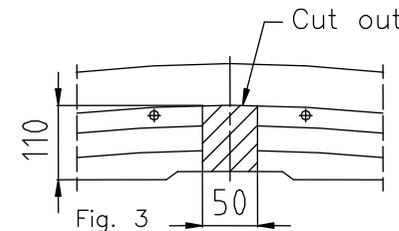

Fig. 3
- To the left and right chassis member slip sleeve $L=85$ mm (pos. 10), see fig.
- To drilled holes put sleeves $L=51,5$ mm (pos. 9).
- To the inside of chassis members and rear part of the car put brackets (pos. 4 and 5) and fix using bolts $M10 \times 120$ mm (pos. 13) through sleeves and bolts $M10 \times 35$ mm (pos. 15) through nuts on the jib (pos. 8).
- Put the main bar of the towing hitch (pos. 1) on protruding elements (bolts) of removed metal reinforcement and fix using original nuts $M8$ (from reinforcement) and using $M10 \times 90$ mm (pos. 14) - see fig.
- Elements of the towing hitch (pos. 6 and 7) fix loosely to the original tow handle, and next through holes (pos. A) of ball brackets fix using bolts $M10 \times 30$ mm (pos. 16).
- Fix tow-ball (pos. 2) with socket plate (pos. 3) using bolts $M12 \times 75$ mm (pos. 11) and $M12 \times 70$ mm (pos. 12).
- Assemble a cover plate and a bumper (cut out its fragment – see fig. 3 and 4).